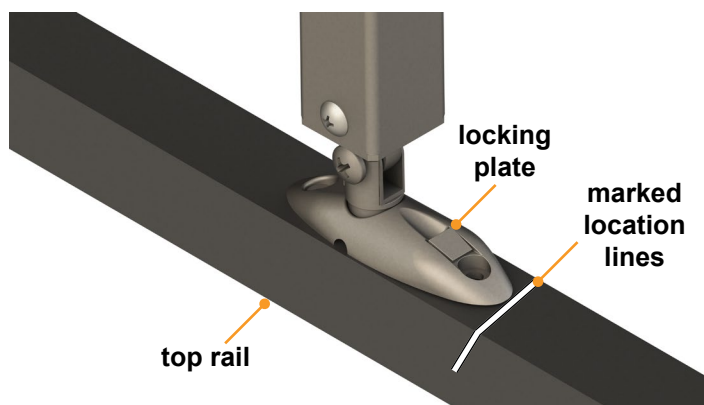

Fig.15
C. Using a non-permanent marker, mark the location of the locking plate on the top rail of the boat (Fig.15).